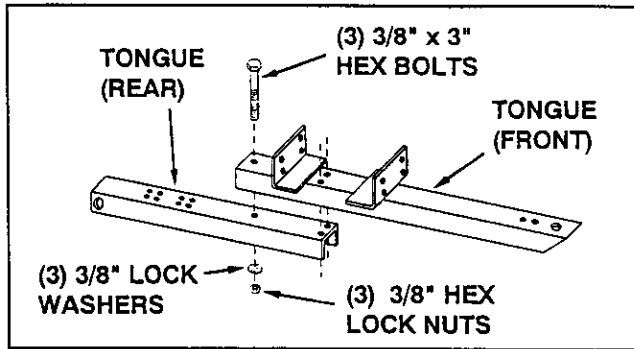

FIGURE 8
- Assemble the front tongue over the top of the rear tongue using three 3/8" x 3" hex bolts, 3/8" lock washers and 3/8" hex lock nuts. See figure 8.